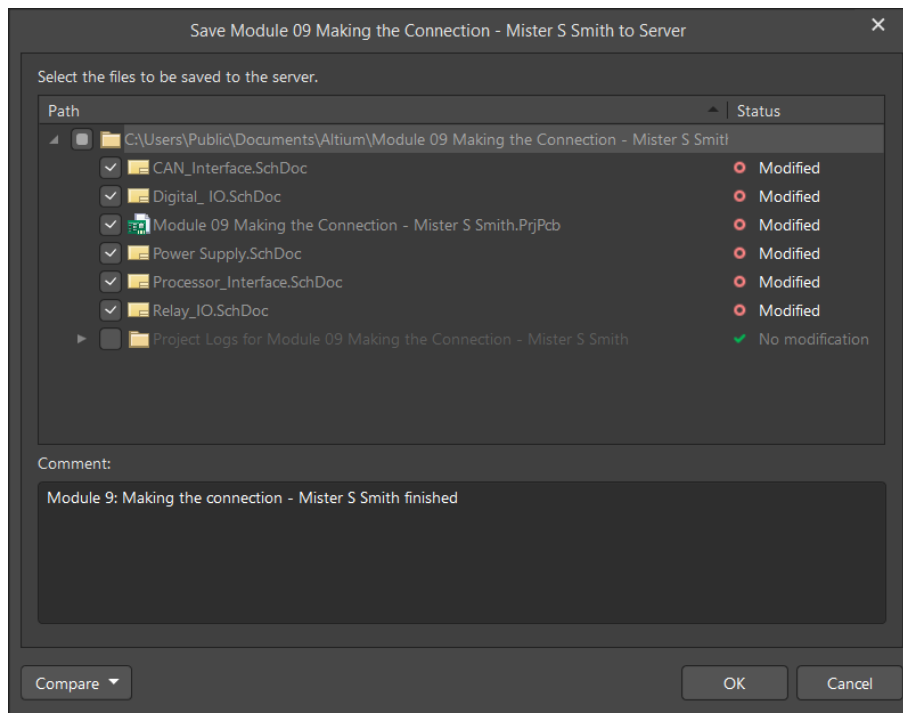

Figure 36. Save to Server
63. At the dialog *Save [Project Name]*, as seen at Figure 36.